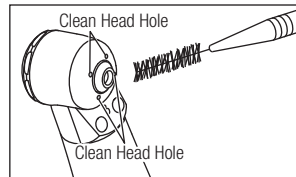

Fig. 2
- 2) Brush off the debris at the Clean Head Holes. Do not use a wire brush. (Fig. 2)